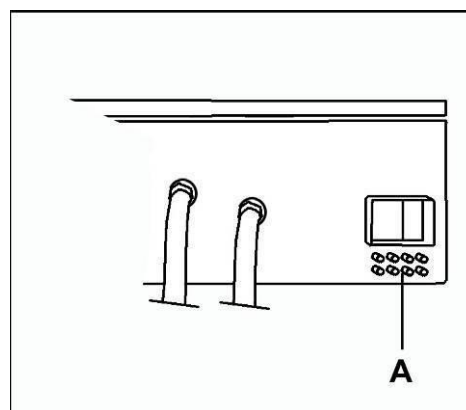

Fig. 3.18
- Connect the hoses to the nipples **A** on the manifold (Fig. 3.18).